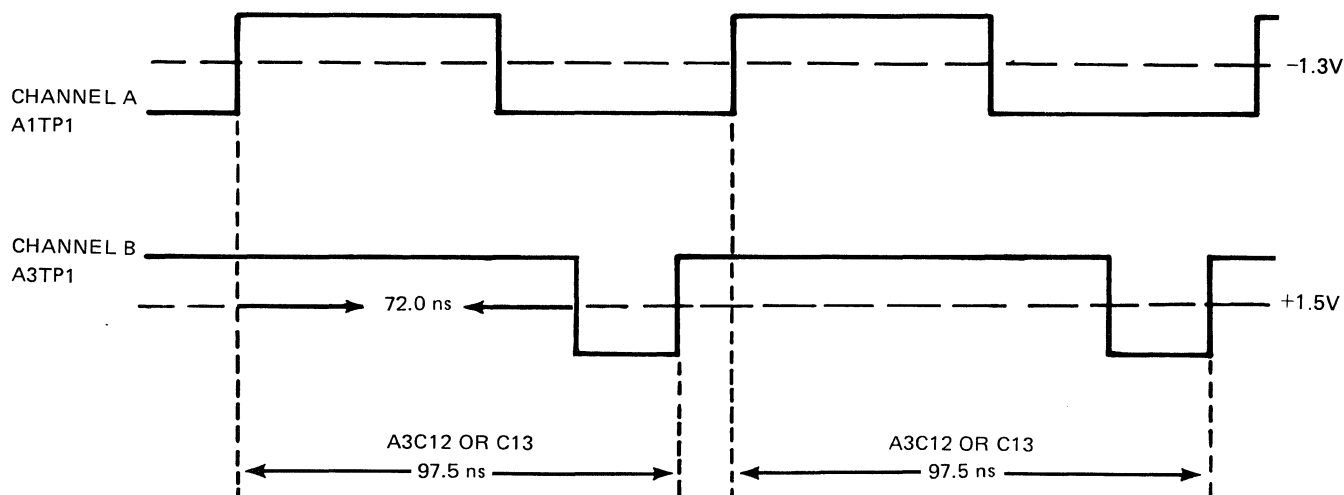

Figure 5-8. Term and Write Adjust Waveform
- h. Adjust A3C14 or A3C17 (TERM) for $97.5 \text{ ns} \pm 0.5 \text{ ns}$ between rising edge of channel A waveform (A1TP1) and rising edge of channel B waveform (A3TP1). See figure 5-8.